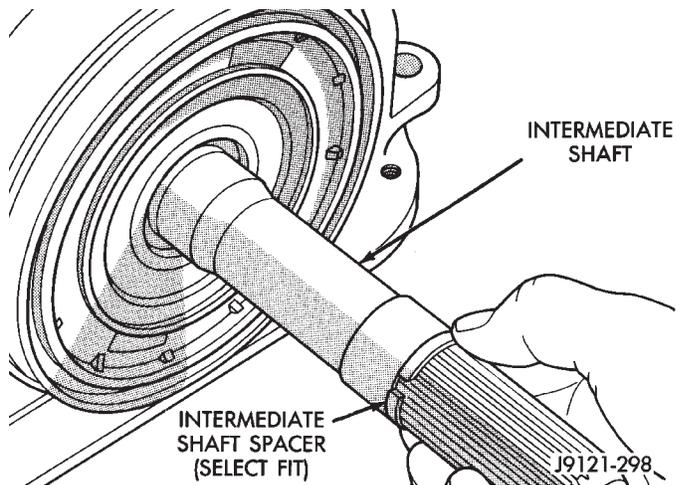

Fig. 211 Intermediate Shaft Spacer Location
- (2) Remove intermediate shaft spacer (Fig. 211). Retain spacer. It is a select fit part and may possibly be reused.